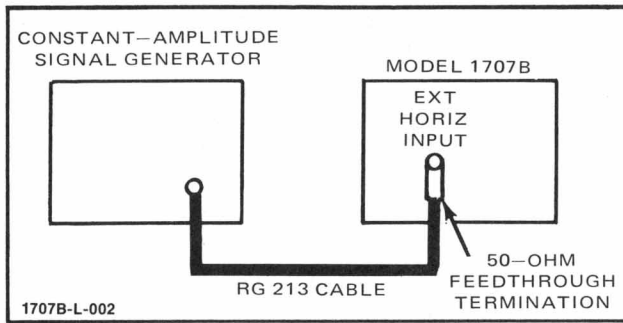

Figure 5-16. Ext Horizontal Bandwidth Test Setup
- a. Set up instruments as shown in figure 5-16.